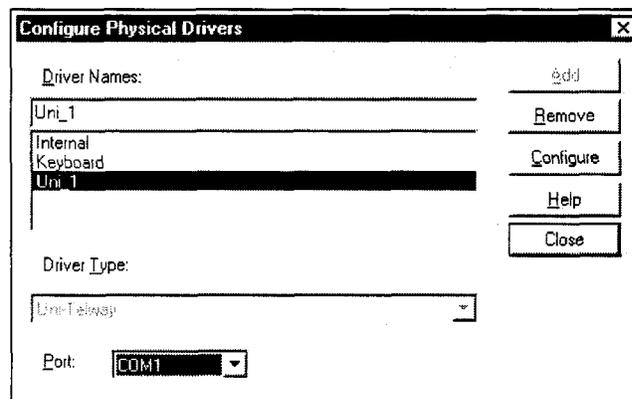

Figure 2. Configure Physical Drivers Dialog Box
2. Select the Drivers command on the Configure menu in the Application Navigator. The Configure Physical Drivers dialog box opens, as shown in Figure 2.